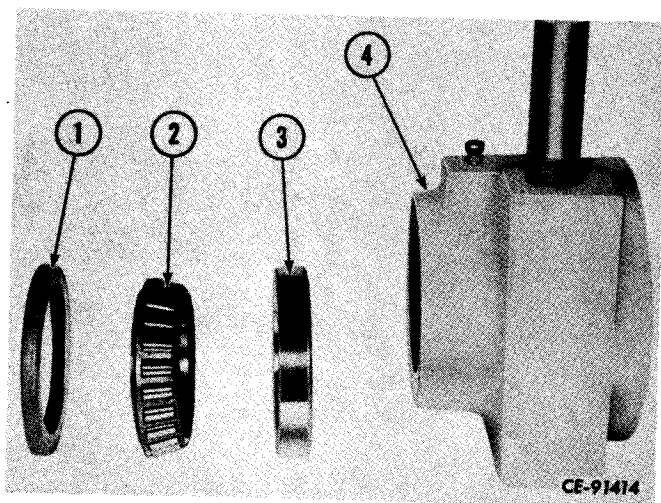

Figure 5-26
Using a flat head drift, drive oil seal (1, Fig. 5-26), bearing cone (2), and bearing cup (3) out of housing output end (5). Discard oil seal.